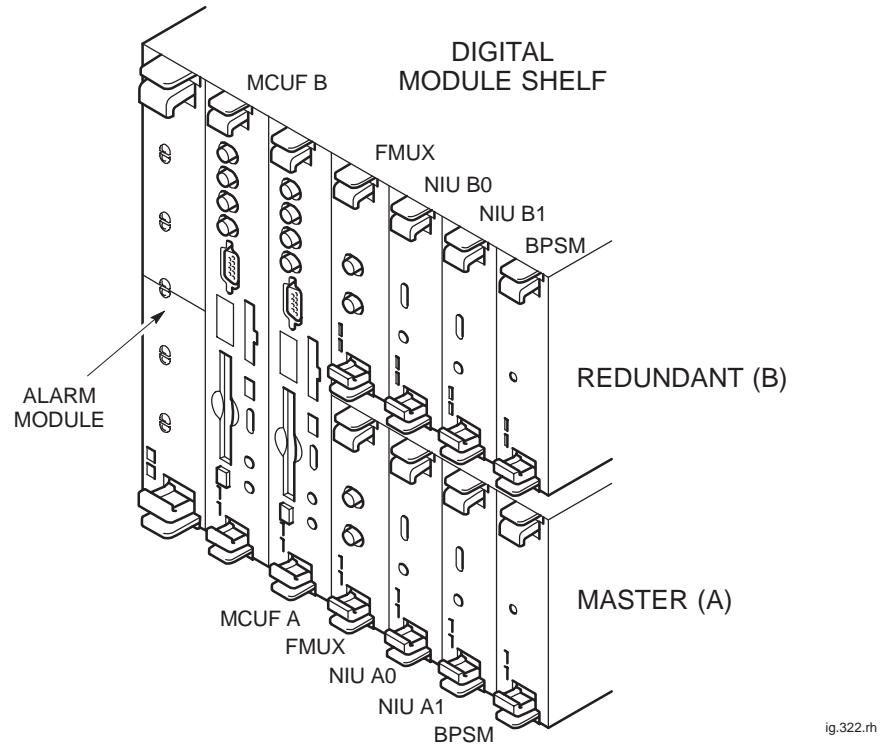

Figure 3-18 Digital and BPSM module locations, including optional redundancy
Figure 3-18 shows the location of modules within the digital module shelf.
2. Locate the faulty module, as shown in Figure 3-18.